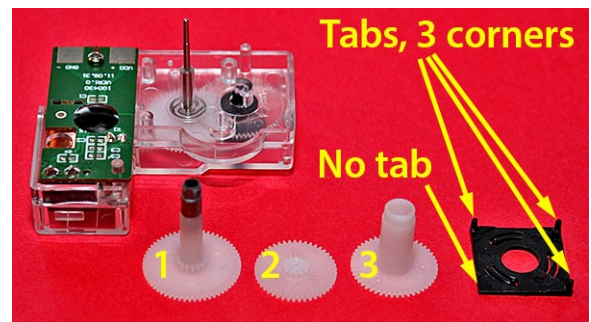

Fig. 47: Gears ready to assemble.
- Lay the movement, the three loose gears, and the square black gear retainer on your table, as shown in Fig. 47. Notice that the retainer has tabs on three corners, but not on the fourth corner. This is important in the final reassembly step.